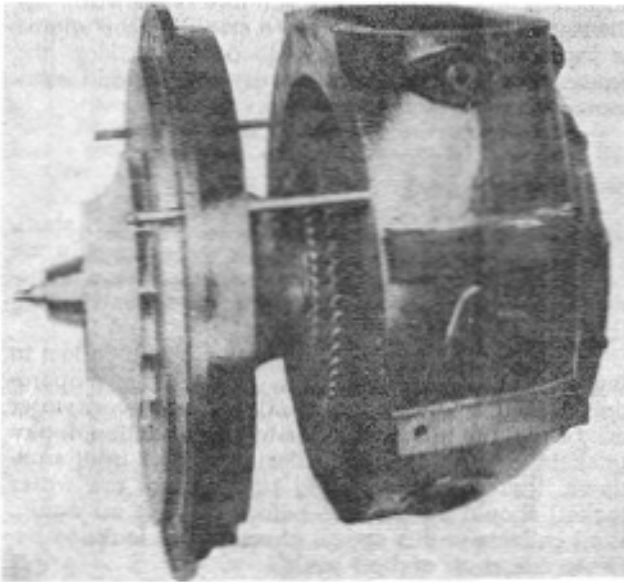
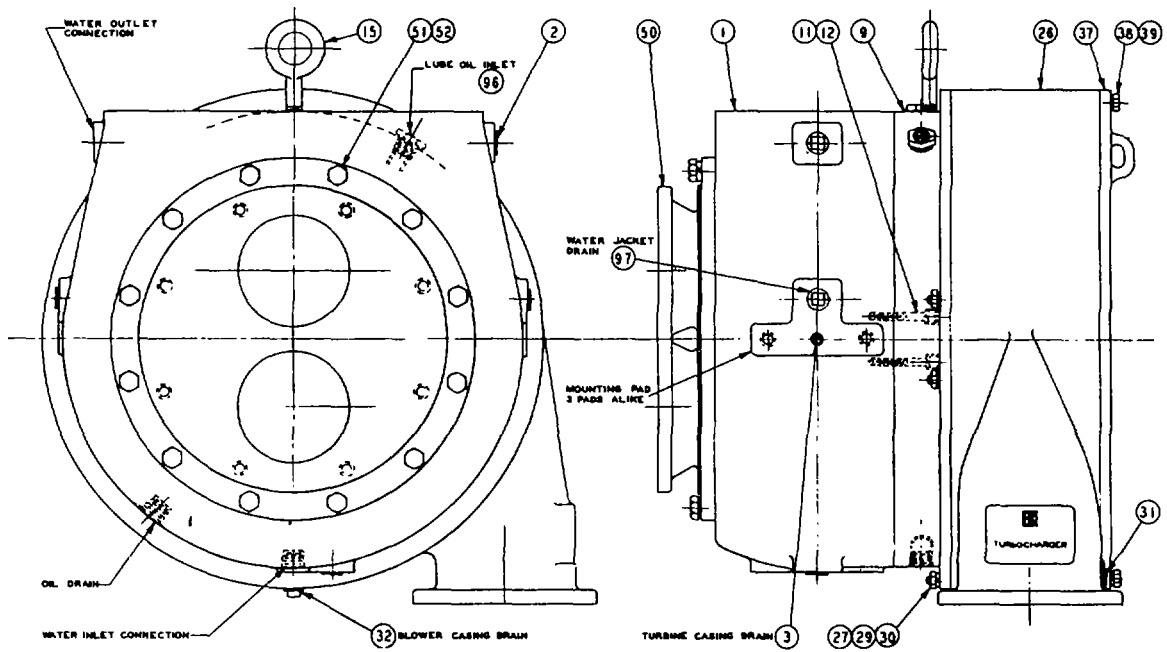

Fig. 4-Intermediate and Turbine Casing-Method of Assembly and Disassembly.
Fig. 7-Outline Drawing L 10 Turbocharger
3. Remove intermediate casing to turbine casing cap screws (11) install intermediate casing guide pins (103) and special jacking screws (102) (see Figs.4 and 11) and break the joint. Remove special jacking screws.
4. Slide the intermediate casing and rotor assembly clear of the nozzle ring to avoid damaging the turbine blades (see Fig. 4).
5. The intermediate casing may now be supported with the eye bolt (15) for disassembly of the rotor.
play should be checked with a dial indicator. End play should be within the limits specified in Section 6. After checking the end play, the bearings should be oiled through the lube oil inlet at the top of the intermediate casing (9) Figs. 7 and 8. Turn the rotor by hand to be sure that the oil gets to all surfaces of the shaft and bearings.
3. With the aid of eyebolt and overhead lift, slide the intermediate casing into place (See Fig. 4), being careful not to damage the turbine blades. Install cap screws (1) Fig. 7 and tighten evenly.